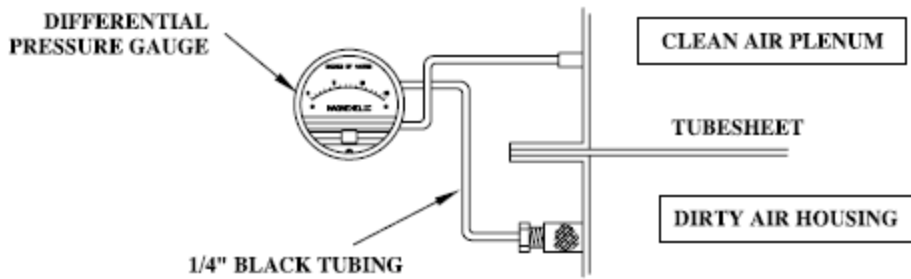

Figure 5 Magnehelic Pressure Gauge Installation
The differential gauge is supplied complete with fittings and tubing for hook up between the clean and dirty side of the dust collector. (Figure 5).
- **Differential pressure gauge or manometer** – installed as shown in Fig. 5